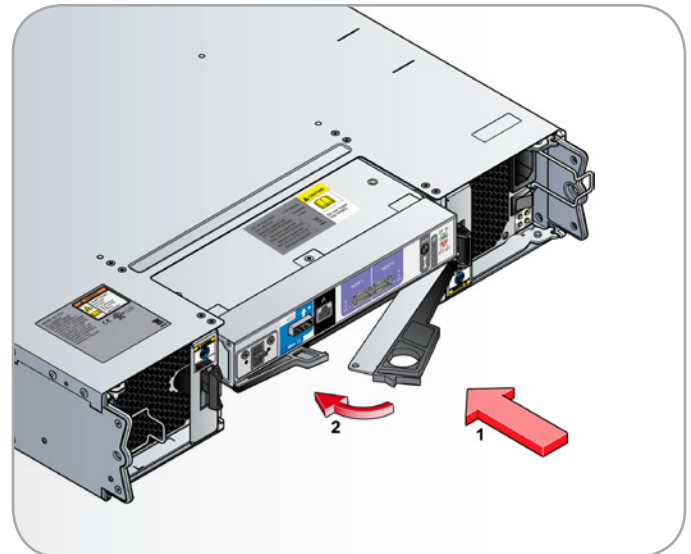

Fig. 42 - Inserting the RAID Controller Module
2. With the latch in the open position (see Fig. 42), slide the RAID Controller into the enclosure until the latch engages.